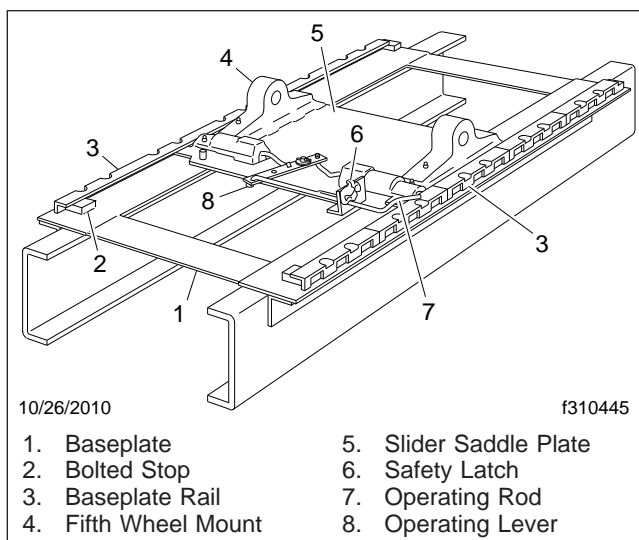

Fig. 17.13, Sliding Fifth Wheel Manual Release, Holland Simplex
- 2.2 **Holland:** Pull the operating rod out. Make sure both side plungers have released. See **Fig. 17.13**.